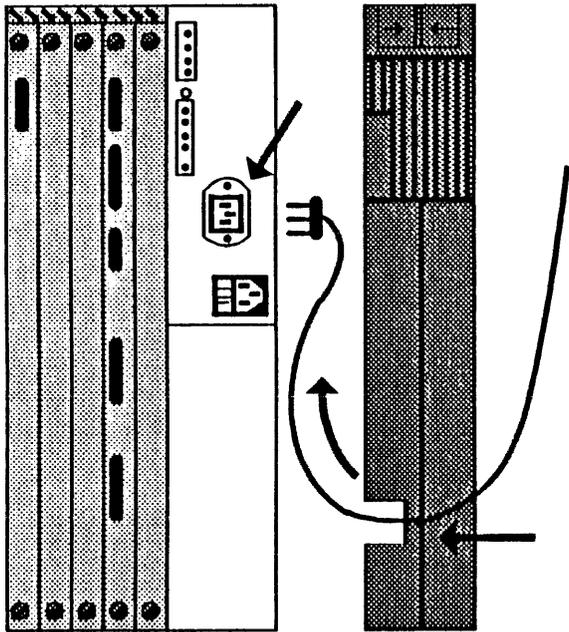

Figure 20. Connecting the Display Power Cord to the Processor Unit
**NOTE:** The illustration in Figure 20 does not accurately depict the location of the rear cover.